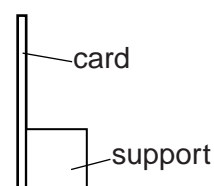

Fig. 4.2
- (iv) Screen. A white sheet of stiff card approximately 150 mm \times 150 mm, fixed to a wooden support is suitable (see Fig. 4.2).